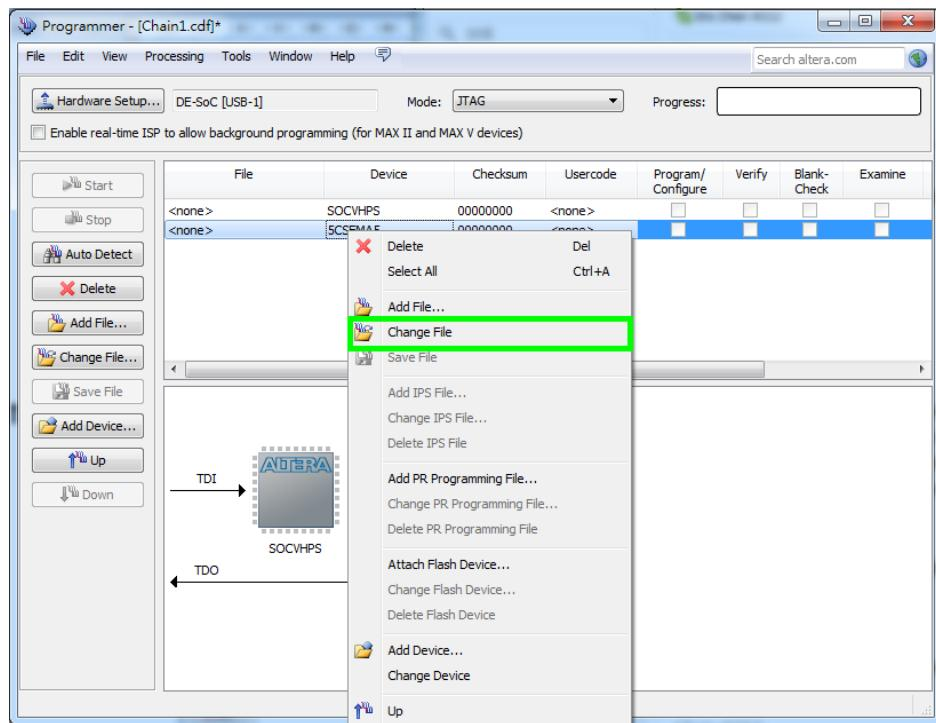

Figure 3-10 Open the .sof file to be programmed into the FPGA device
5. Right click on the FPGA device and open the .sof file to be programmed, as highlighted in **Figure 3-10**.